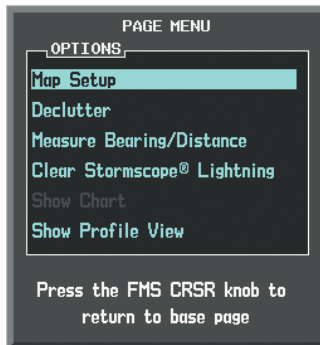

Figure 6-194 Navigation Map Page Menu
- 3) With Map Setup highlighted, press the **ENT** Key (Figure 6-194).